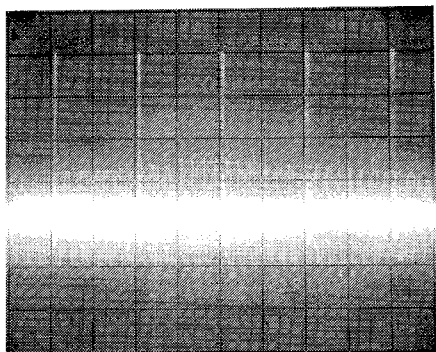
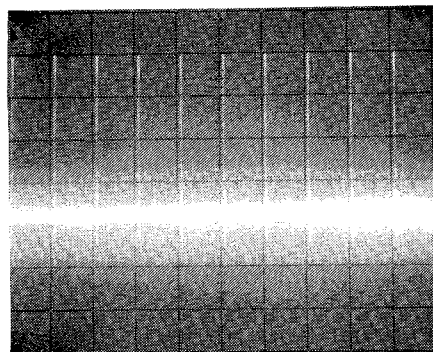

Figure A30-3
Figure A30-4
- (d) The SLMS frequency display should indicate 40,000.000 or 20,000.000. Pressing the \uparrow key alternates between these two display readings. Monitor A30TP5 with an oscilloscope and press the \uparrow key. Check the waveform changes frequency and is typically as shown in the Figure A30-3 and Figure A30-4